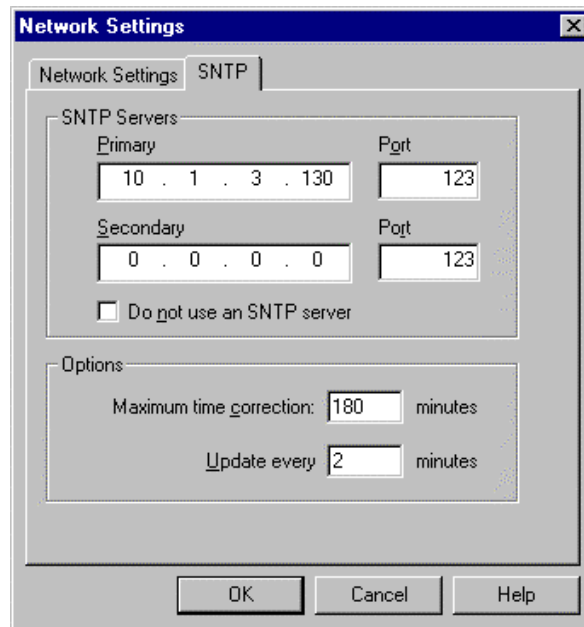

Figure 8-1 – Setting the System SNTP Server
1. In the Configuration Server, select **Settings** from the **Network** menu and click on the **SNTP** tab as shown in Figure 8-1.